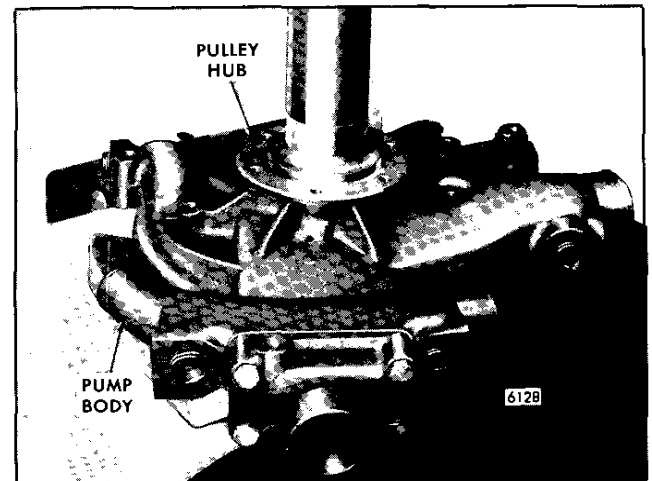

Fig. 8 - Installing Pulley Hub Using Tool J 29191
2. Supporting the water pump shaft (impeller side) on an arbor press, press a new pulley hub on the shaft using tool J 29191 (Fig. 8). Tool J 29191 is designed to position the pulley hub at the